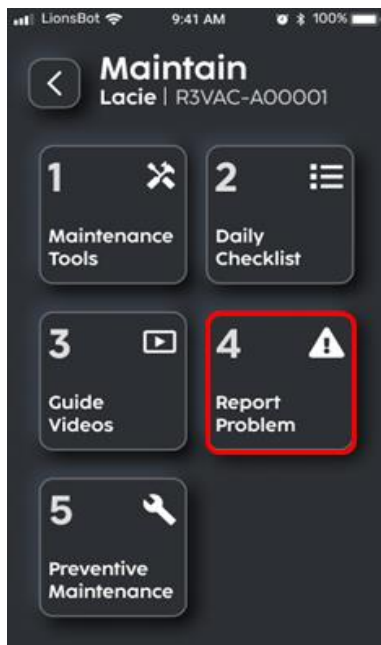

FIGURE 7-21
1. Click on 'Report Problem' (Fig. 7-21).